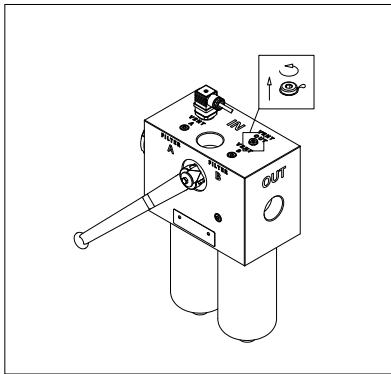

fig. 18
- (Fig. 18) Loose the “Vent OUT” breather plug by a maximum of one turn